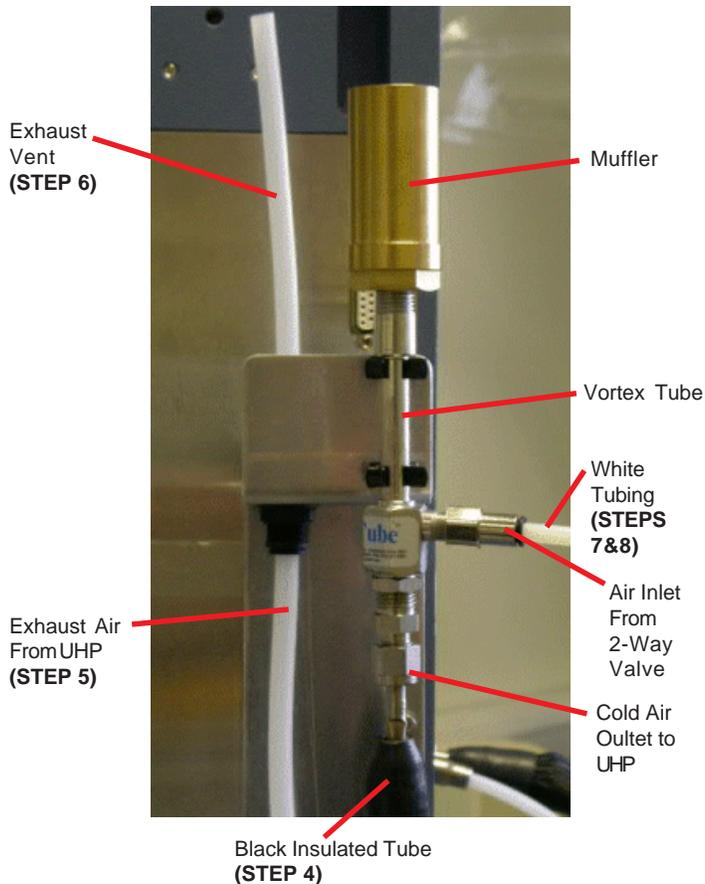

Figure 7.6
2. Clip the vortex air cooler into the spring clips with the brass muffler extending upward as shown in Figure 7.6 below.